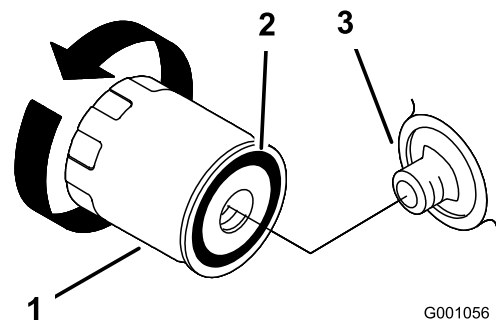

Figure 49
2. Remove the old filter and wipe the filler adapter gasket surface (Figure 49).
5. Apply a thin coat of new oil to the rubber gasket on the replacement filter (Figure 49).
6. Install the replacement oil filter to the filter adapter, turn the oil filter clockwise until the rubber gasket contacts the filter adapter, then tighten the filter an additional 2/3 to 1 turn (Figure 49).